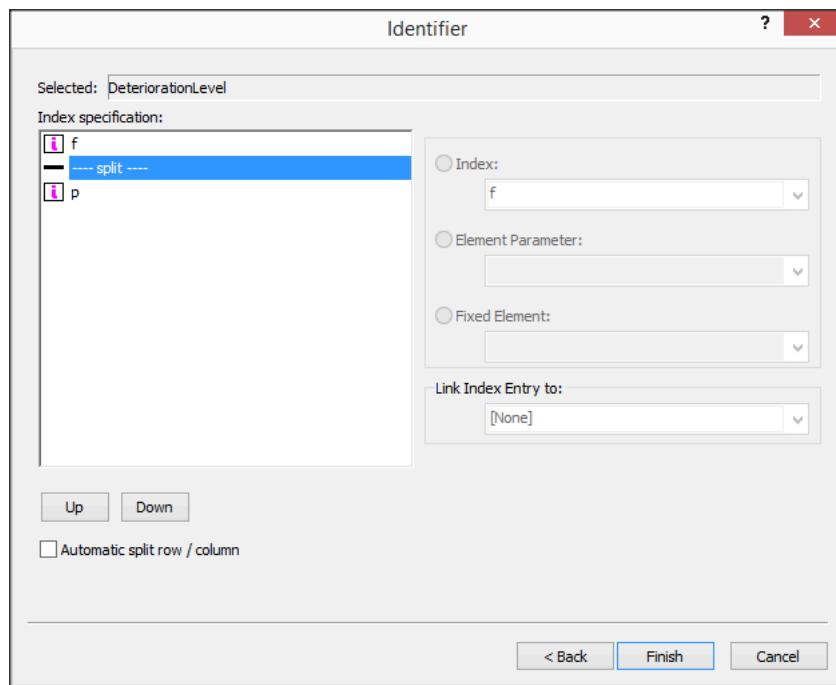

Figure 11.4: Specifying the row and column domain
- ▶ select the ‘split line’ entry that pops up in the listbox (see Figure 11.4),